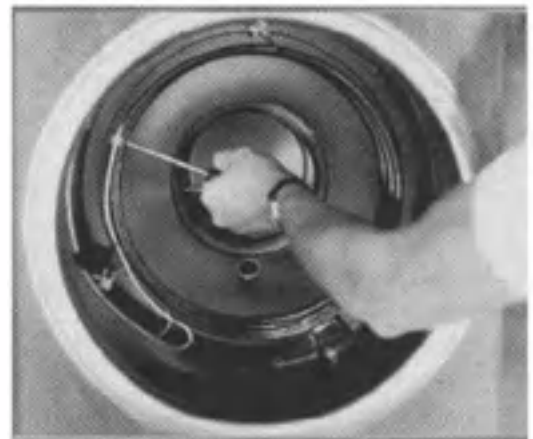

FIG. 5
10. Remove screw securing thermostat bulb and clamp to top heater coil and save for reuse. Note position of bulb and clamp to ensure proper installation of new thermostat (See Figure 5).